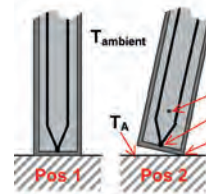

Figure 2.
The temperature as a function of time at the different positions shown in Figure 2. Note that initially the sensor's point of contact (B) very briefly adopts the surface temperature T_A .